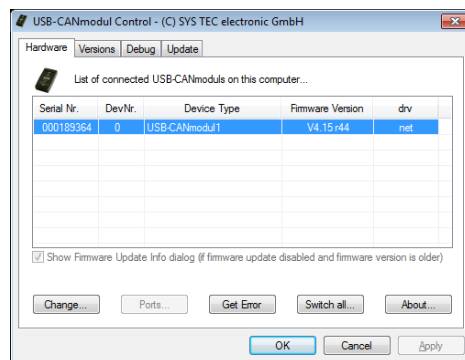

Fig. 3-7 DevNr value location
3. Launch the USB-CANmodul control application, located in Start -> All Programs -> USB-CANmodul Utilities. Make a note of the “DevNr” value (Fig.3-7).